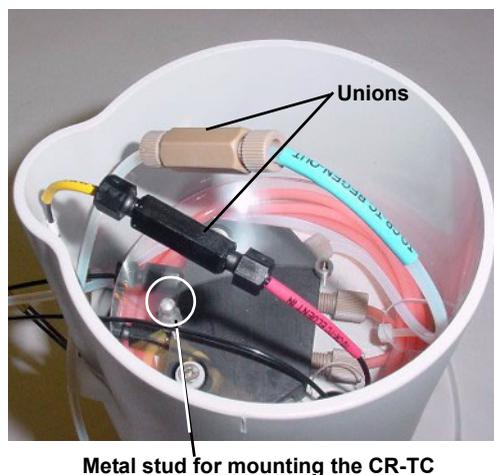

Figure 5-46. EGC Holder (upside down)
14. Turn the new holder upside down (see Figure 5-46) and connect the liquid lines to the CR-TC. Match the color coded labels on the EGC holder lines to the color coded labels for the CR-TC ports.